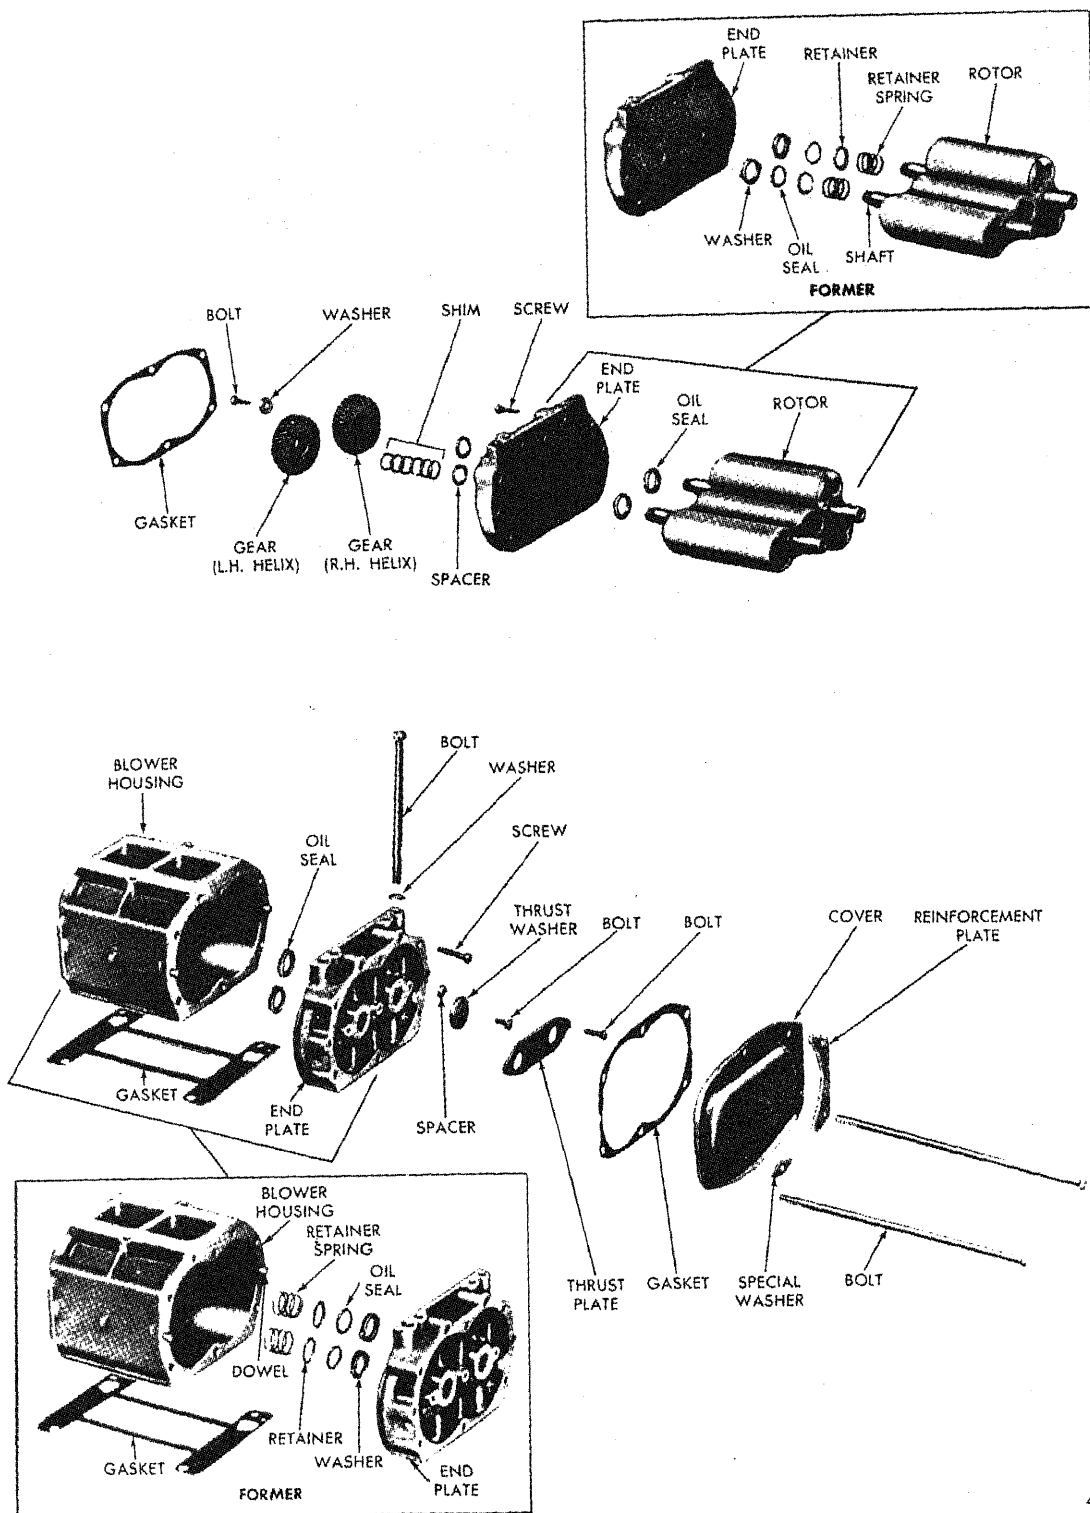

Fig. 7 - Typical Blower Details and Relative Location of Parts (3-53 Engine Blower)
4. At the other end of the blower, remove the thrust plate bolts, the thrust plate and three spacers from the front end plate. Remove the bolts and the washers (refer to Fig. 7).
Refer to Fig. 7 and assemble the blower as follows: